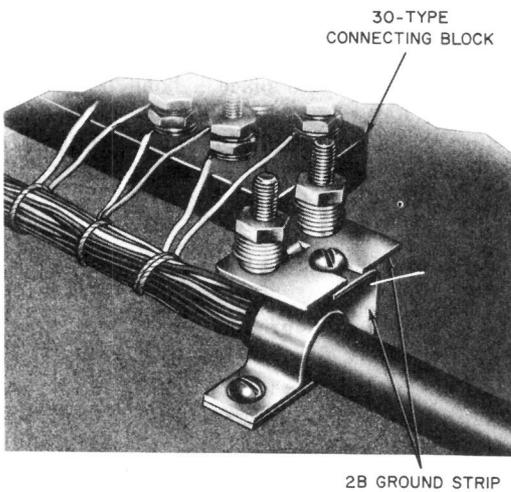

Fig. 60—Typical Installation of 2B Ground Strip
**7.04** The 2B ground strip (Fig. 59) consists of an assembly of the 2A ground strip and a mounting bracket (see Table G). See Fig. 60 for a typical installation of the 2B ground strip.